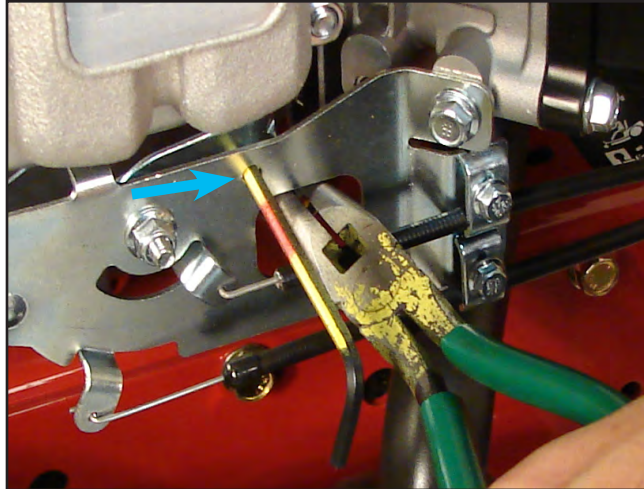

Figure 11
1. Insert pin into alignment hole through the control plate and throttle pivot arm (Figure 11).